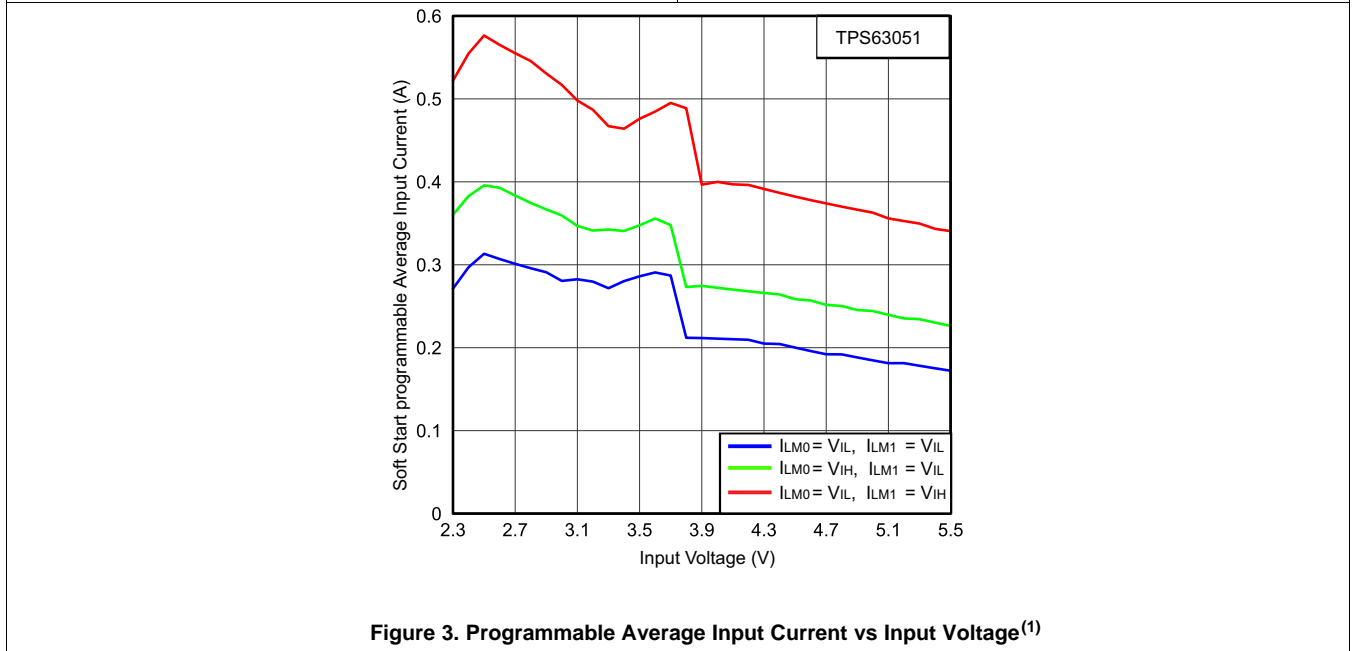

Figure 3. Programmable Average Input Current vs Input Voltage(1)
(3) For variation of this parameter with Input voltage see Figure 3.
(1) For variation of this parameter with Input voltage see Figure 3.
To minimize inrush current and output voltage overshoot during start up, the device has a soft start. At turn on, the input current raises monotonically until the output voltage reaches regulation. The TPS6305x devices charge the soft start capacitor, at the SS pin, with a constant current of typically 1  $\mu$ A. The input current follows the current used to charge the capacitor at the SS pin. The soft start operation is completed once the voltage at the SS pin has reached typically 1.3 V. Figure 3 shows the value of the soft start capacitor in respect to the soft-start time.
The soft-start time in Figure 3 is referred to typical application with 10- $\mu$ F effective output capacitance.